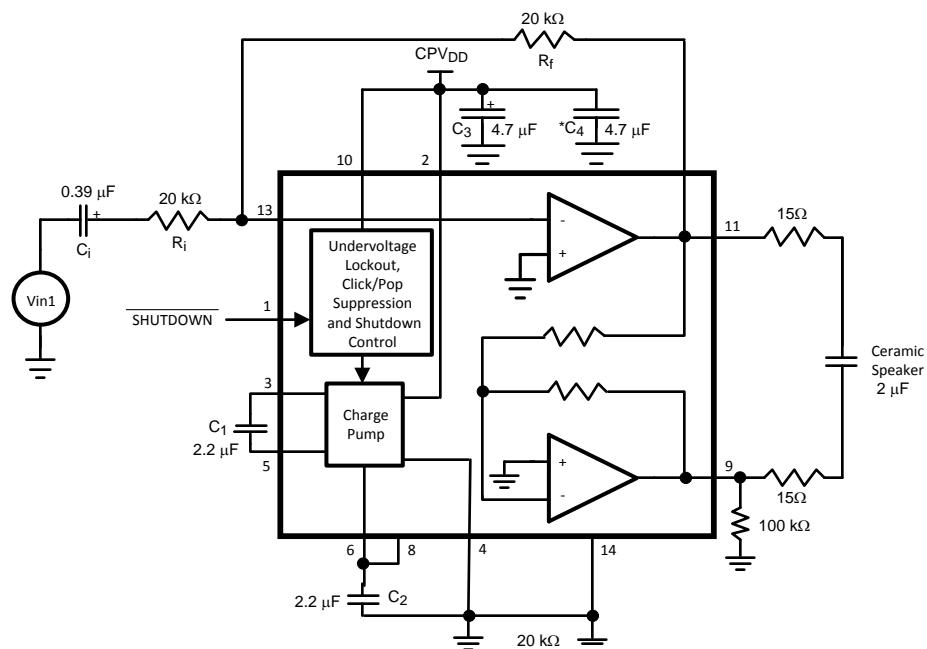

Figure 1. Typical Application Circuit
- (1) All voltages are measured with respect to the GND pin unless otherwise specified.
- (2) Absolute Maximum Ratings indicate limits beyond which damage to the device may occur. Operating Ratings indicate conditions for which the device is functional but do not ensure specific performance limits. Electrical Characteristics state DC and AC electrical specifications under particular test conditions that ensure specific performance limits. This assumes that the device is within the Operating Ratings. Specifications are not ensured for parameters where no limit is given; however, the typical value is a good indication of device performance.
- (3) If Military/Aerospace specified devices are required, please contact the Texas Instruments Sales Office/Distributors for availability and specifications.
- (4) The maximum power dissipation must be derated at elevated temperatures and is dictated by T_{JMAX}, θ_{JA}, and the ambient temperature, T_A. The maximum allowable power dissipation is P_{DMAX} = (T_{JMAX} – T_A)/θ_{JA} or the number given in Absolute Maximum Ratings, whichever is lower. For the LM4xxx typical application (shown in Figure 1) with V_{DD} = yyV, R_L = 2μF+30Ω mono BTL operation the total power dissipation is xxxW. θ_{JA} = 40°C/W.
- (5) Human body model, 100pF discharged through a 1.5kΩ resistor.
- (6) If the product is in shutdown mode and V_{DD} exceeds 3.6V (to a max of 4V V_{DD}), then most of the excess current will flow through the ESD protection circuits. If the source impedance limits the current to a max of 10mA, then the part will be protected. If the part is enabled when V_{DD} is above 4V, circuit performance will be curtailed or the part may be permanently damaged.
- (7) Machine Model, 220pF-240pF discharged through all pins.
The following specifications apply for $V_{DD} = 3.6V$, $A_{V-BTL} = 6dB$, $Z_L = 2\mu F + 30\Omega$ unless otherwise specified. Limits apply to $T_A = 25^\circ C$. See Figure 1.
The following specifications apply for $V_{DD} = 3.0V$, $A_{V-BTL} = 6dB$, $Z_L = 2\mu F + 30\Omega$ unless otherwise specified. Limits apply to $T_A = 25^\circ C$. See Figure 1.